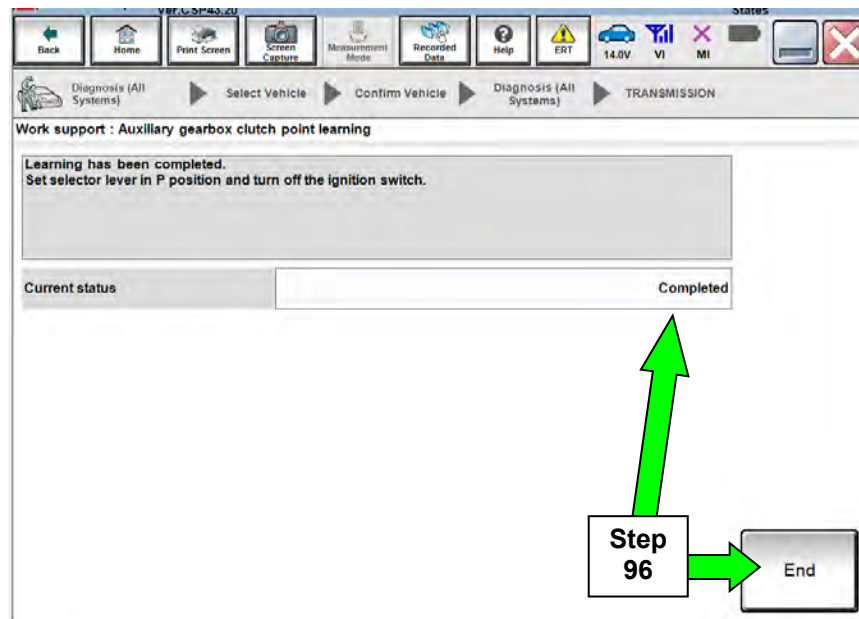

Figure 54
95. Continue to depress the brake pedal until the Current status shows "Completed" as shown in Figure 54 on page 135.